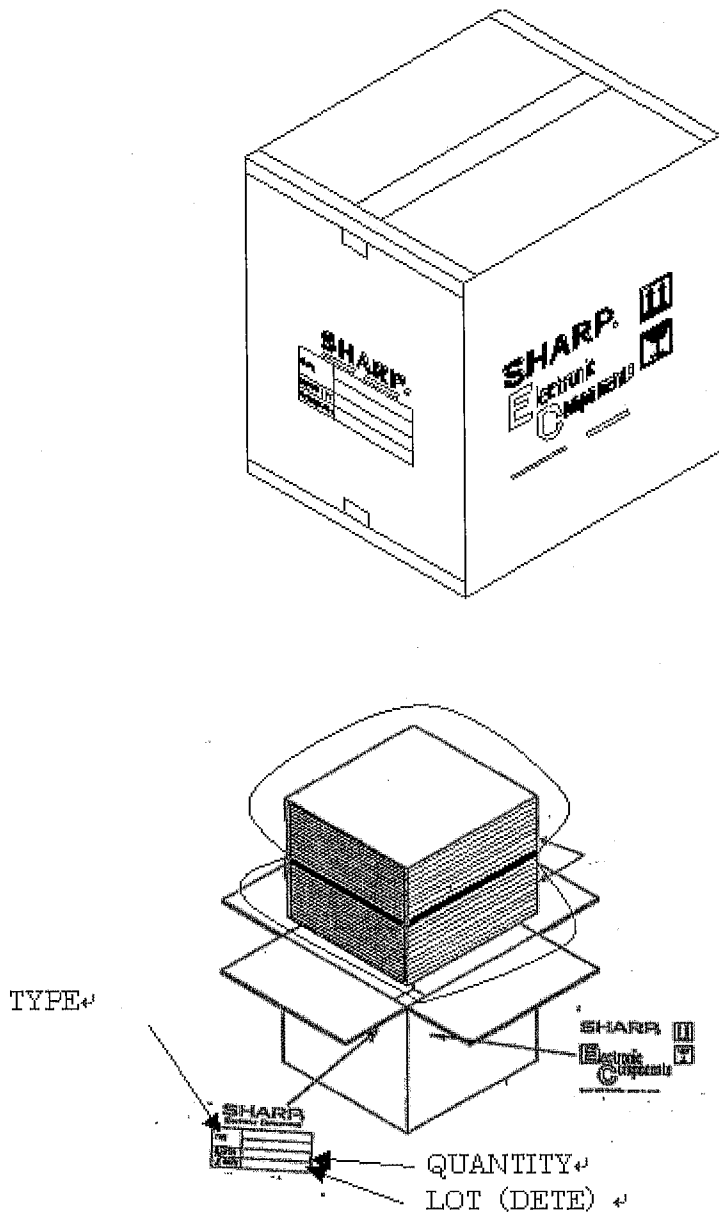

Fig.11-3
- c) Carton size: 440 (W) x 430 (D) x 390 (H) mm
- e) Packing form: Fig.11-3